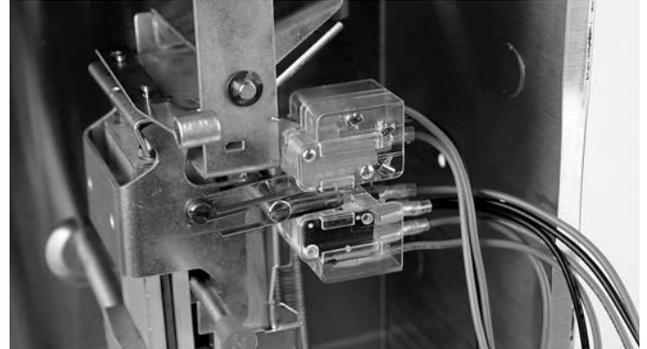

FIGURE 5-118
8. Slide switch cover onto the lower tab of the switch mounting bracket, ensuring that the tab slides into the channels on the back side of the switch cover, until the screw holes line up. See Figure 5-118.